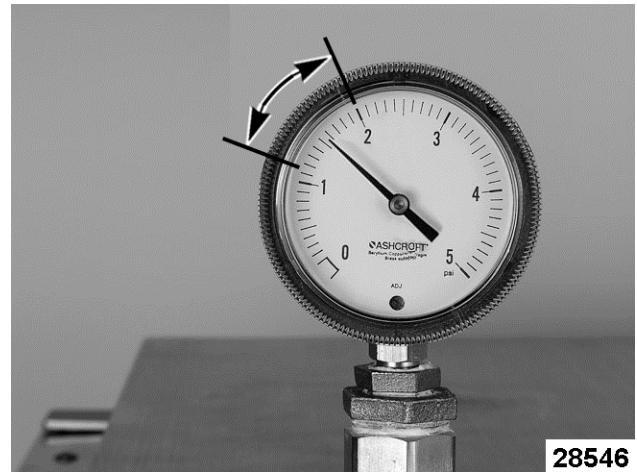

Fig. 80
- B. Observe pressure gauge Fig. 80 once steam begins to be generated. Gauge should level out at approximately 1.25 to 2.0 psi, but will oscillate with respect to fill water entering generator tank.